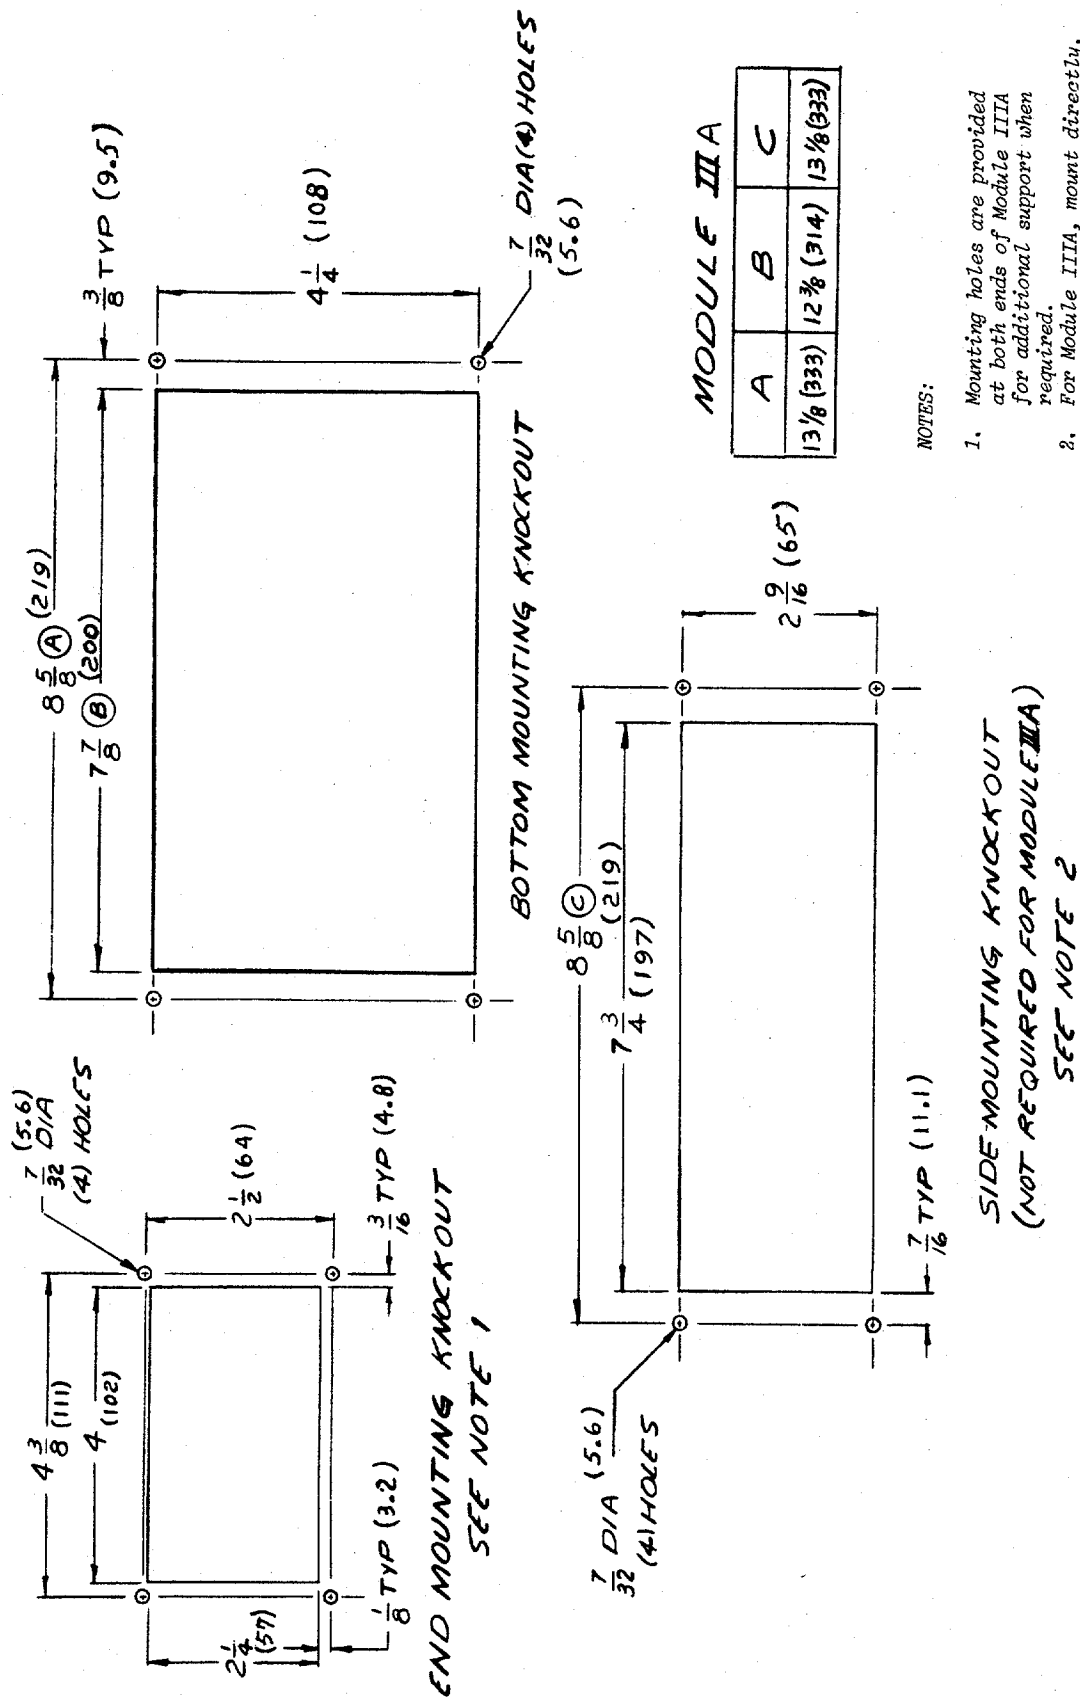

Figure 2-2 Knockout Dimensions, STM Modules III and IIIA
- a. End mounting - Use knockout per Figure 2-2. This knockout clears the terminal block and fuses.
- b. Side or bottom mounting - No knockout is required. Use the four mounting holes shown in Figure 2-2.
- b. Side mounting: Module III units; use knockout per Figure 2-2. Module IIIA units; mount directly with no knockout required.
- c. Bottom mounting: Use knockout per Figure 2-2.